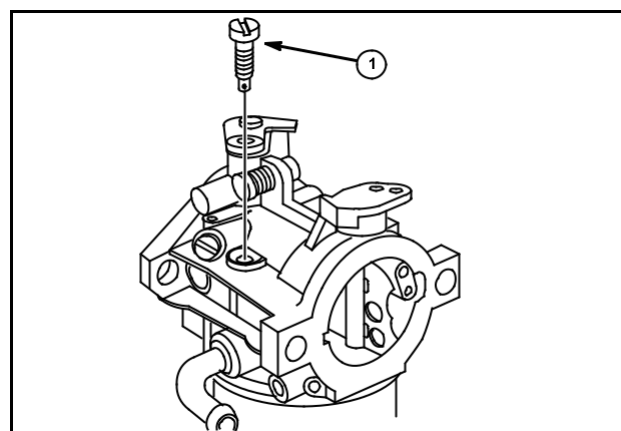

Fig. 102
Using a flat blade screwdriver, remove brass pilot jet (1) from carburetor body, Fig. 102.
Install pilot jet until it seats securely, Fig. 102.